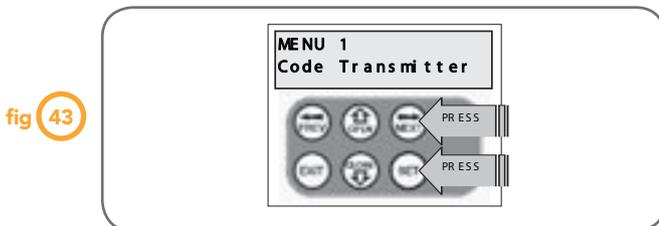

fig 43
1. Press NEXT to navigate to the Menu 1 (Fig. 43).